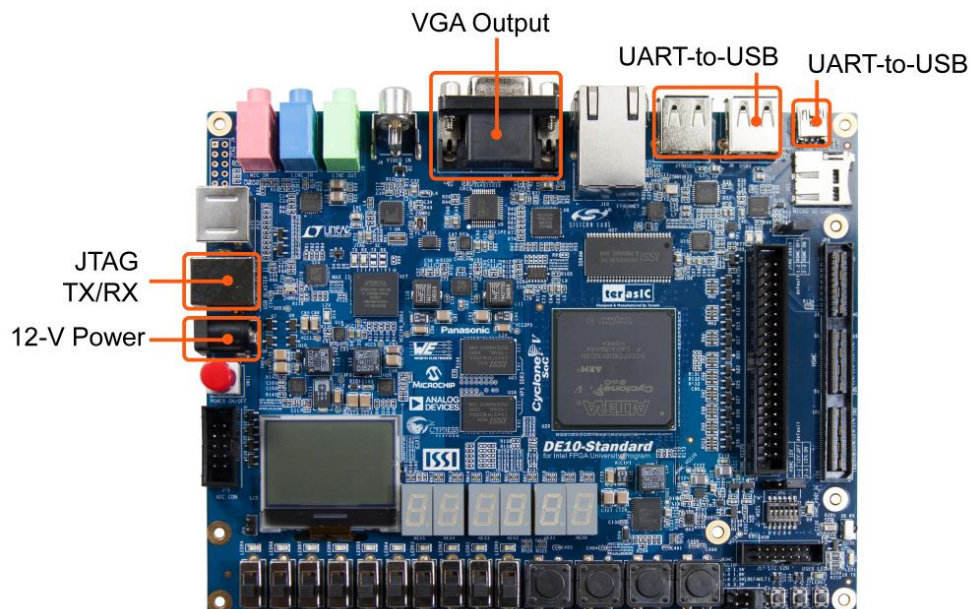

Figure 3-3 USB, HDMI Output and Power Cables
Cable connections are shown in **Figure 3-3** as below:
1. Connect your computer to the development board by plugging the USB cable into the USB connector (J13) of DE10-Standard (connection shown in Figure 3-3)
1. Connect your computer to the development board by plugging the USB cable into the **Mini USB connector (J4)** of DE10-Standard (connection shown in Figure 3-3)